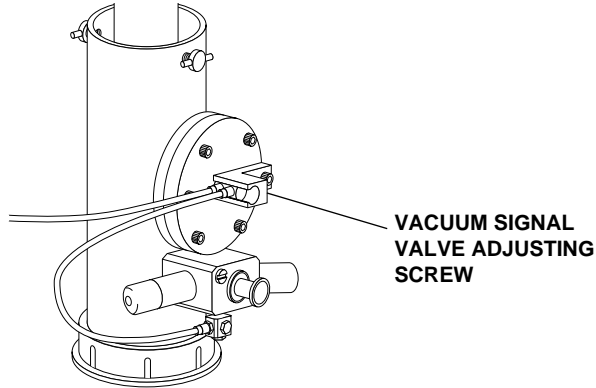

Figure 20. Adjusting the Vacuum Drain Actuator
1. Turn the vacuum signal valve adjusting screw (see Figure 20) clockwise until the drain opens.